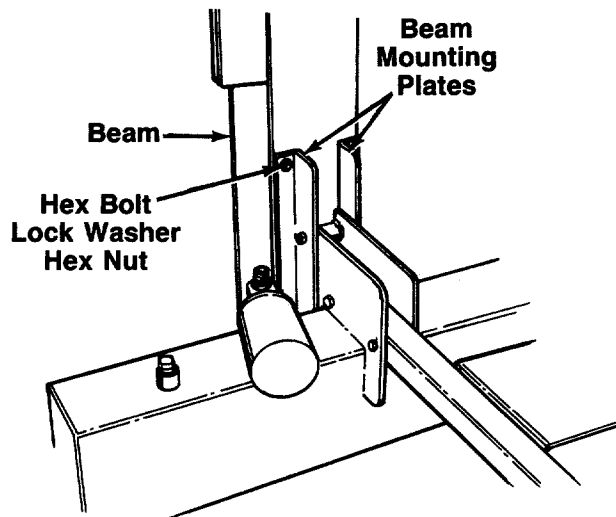

FIGURE 6.
- Remove the four hex bolts, lock washers and hex nuts from the beam mounting plates. A 5/8" and an 11/16" wrench are required. See figure 6.